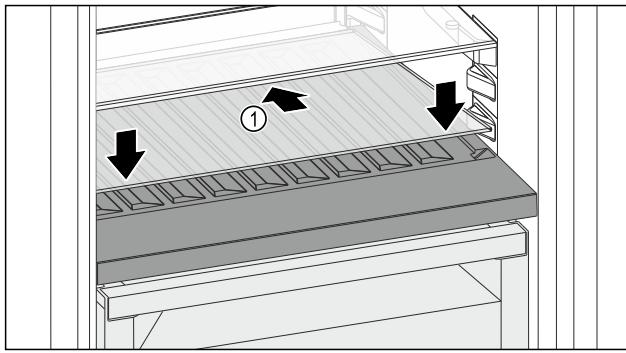

Fig. 136
- ▶ Place the glass shelf Fig. 136 (1) at an angle, sloping it downwards and backwards.
- ▶ Lower the glass shelf Fig. 136 (1) at the front.